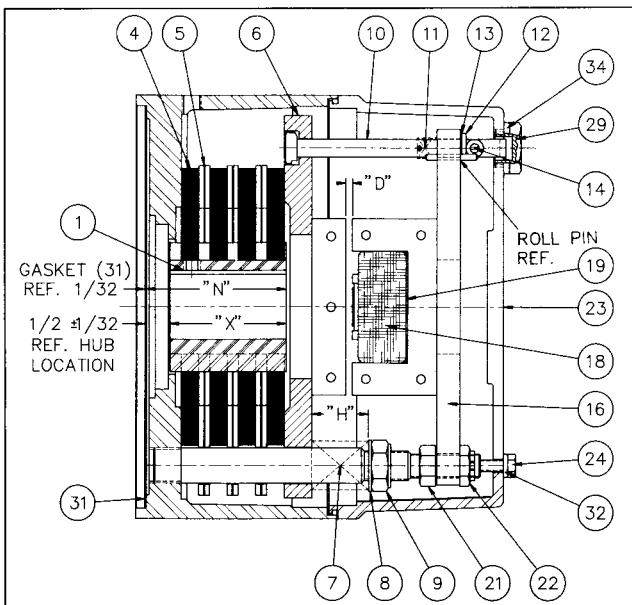

Figure 5
1. Place rotating disc hub (1), with key, onto motor shaft with part number facing away from motor to dimension shown in Fig. 5 ( $1/2 \pm 1/32$ ). Tighten both set screws to 10 - 12 lbs. ft. torque.
Refer to Fig. 5.
When assembling manual release mechanism (Fig. 5), add only enough shim washers (13) to obtain proper release action. Too many shim washers will prevent automatic reset when electrical power is applied. Too few washers will prevent the motor shaft from turning freely. Replace stop screws (14). Wind each torsion spring (11) approximately  $\frac{1}{4}$  turn and hook spring loop over pin.
Refer to Figs. 5, 6, 9 and 10.